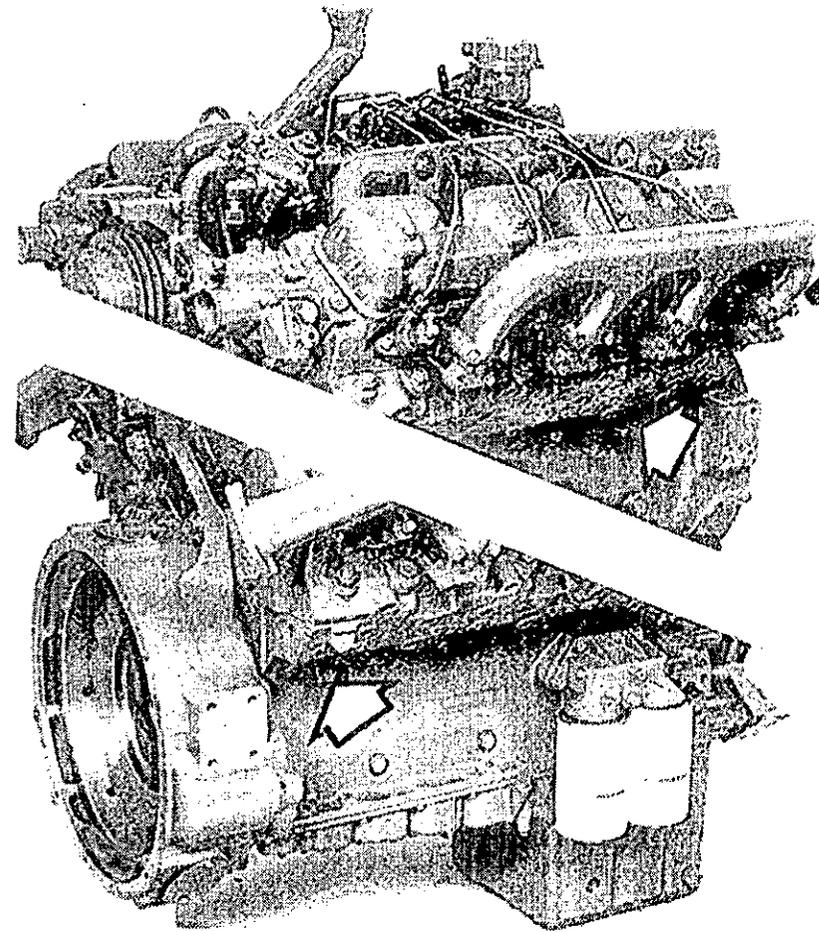

Fig. 10 Coolant drain points
- 3 Remove the drain plug from each side of the cylinder block (see fig. 10) to drain the engine. On some applications, the forward drain position is used. Ensure that the drain holes do not have any restriction.